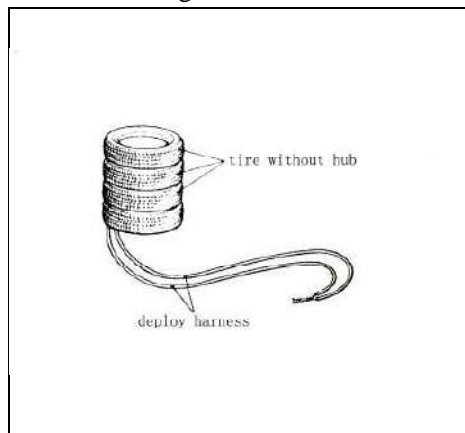

Fig 19-54
5) Put three old tyres without wheels on the tyre secured to the front passenger's air bag module. Secure all the tyres with ropes (4 locations). (See fig 19-54)